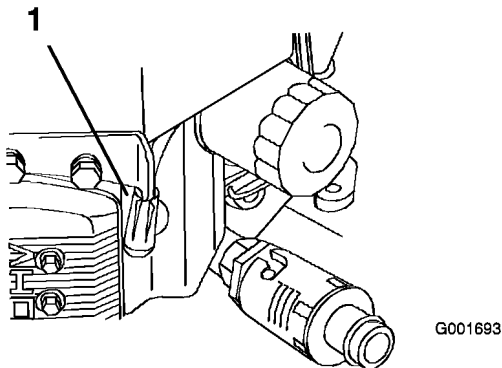

Figure 37
3. Disconnect the wires from the spark plugs (Figure 37).